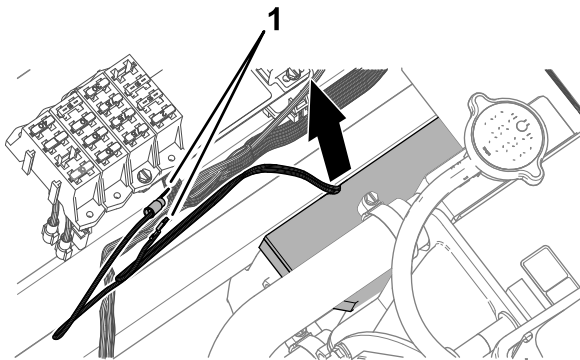

Figure 18
3. Pull the kit wire harness toward the fuse block as shown in Figure 18.